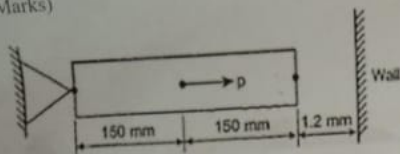

Figure.2
05. A bar is subjected to an axial load of $P=600$ kN as shown in figure.2. Divide the domain into two elements. Determine the following: (a) Displacement at each node. (b) Stresses in each element, and (c) Reactions at each node point. Assume, $A=250$ mm² and $E=2 \times 10^5$ N/mm². (5+6+9 Marks) [20]